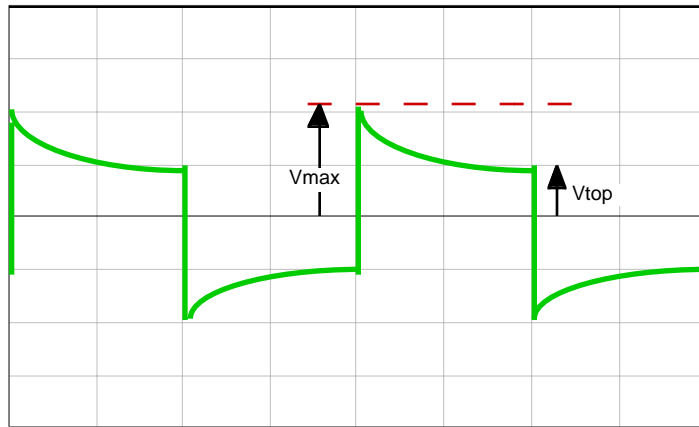

Figure 9. Overshoot definitions
- (c) Using the voltage (V1-V2) cursors measure the overshoot of the displayed waveform. Record this result in Overshoot is either the voltage by which the waveform overshoots its final value, or the percentage by which the maximum voltage exceeds the final value — either is correct. In this lab we will use the voltage definition. For example, if in Figure 9 the vertical sensitivity is 1 V/cm, the waveform overshoots its final value by one centimeter; hence, the overshoot is 1 V. In terms of parameters measured by soft keys the overshoot can also be defined as V_{max}-V_{top}. Finally, some of the lab oscilloscopes even have a softkey which will directly measure overshoot